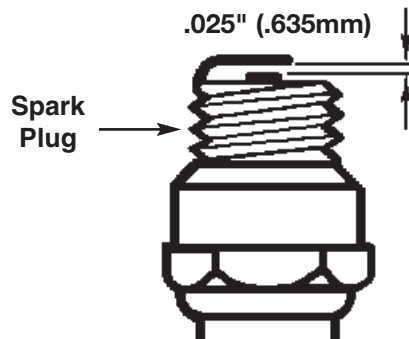

Fig. 18
2. Spark plug gap = .025" (.635mm) (Figure 18).